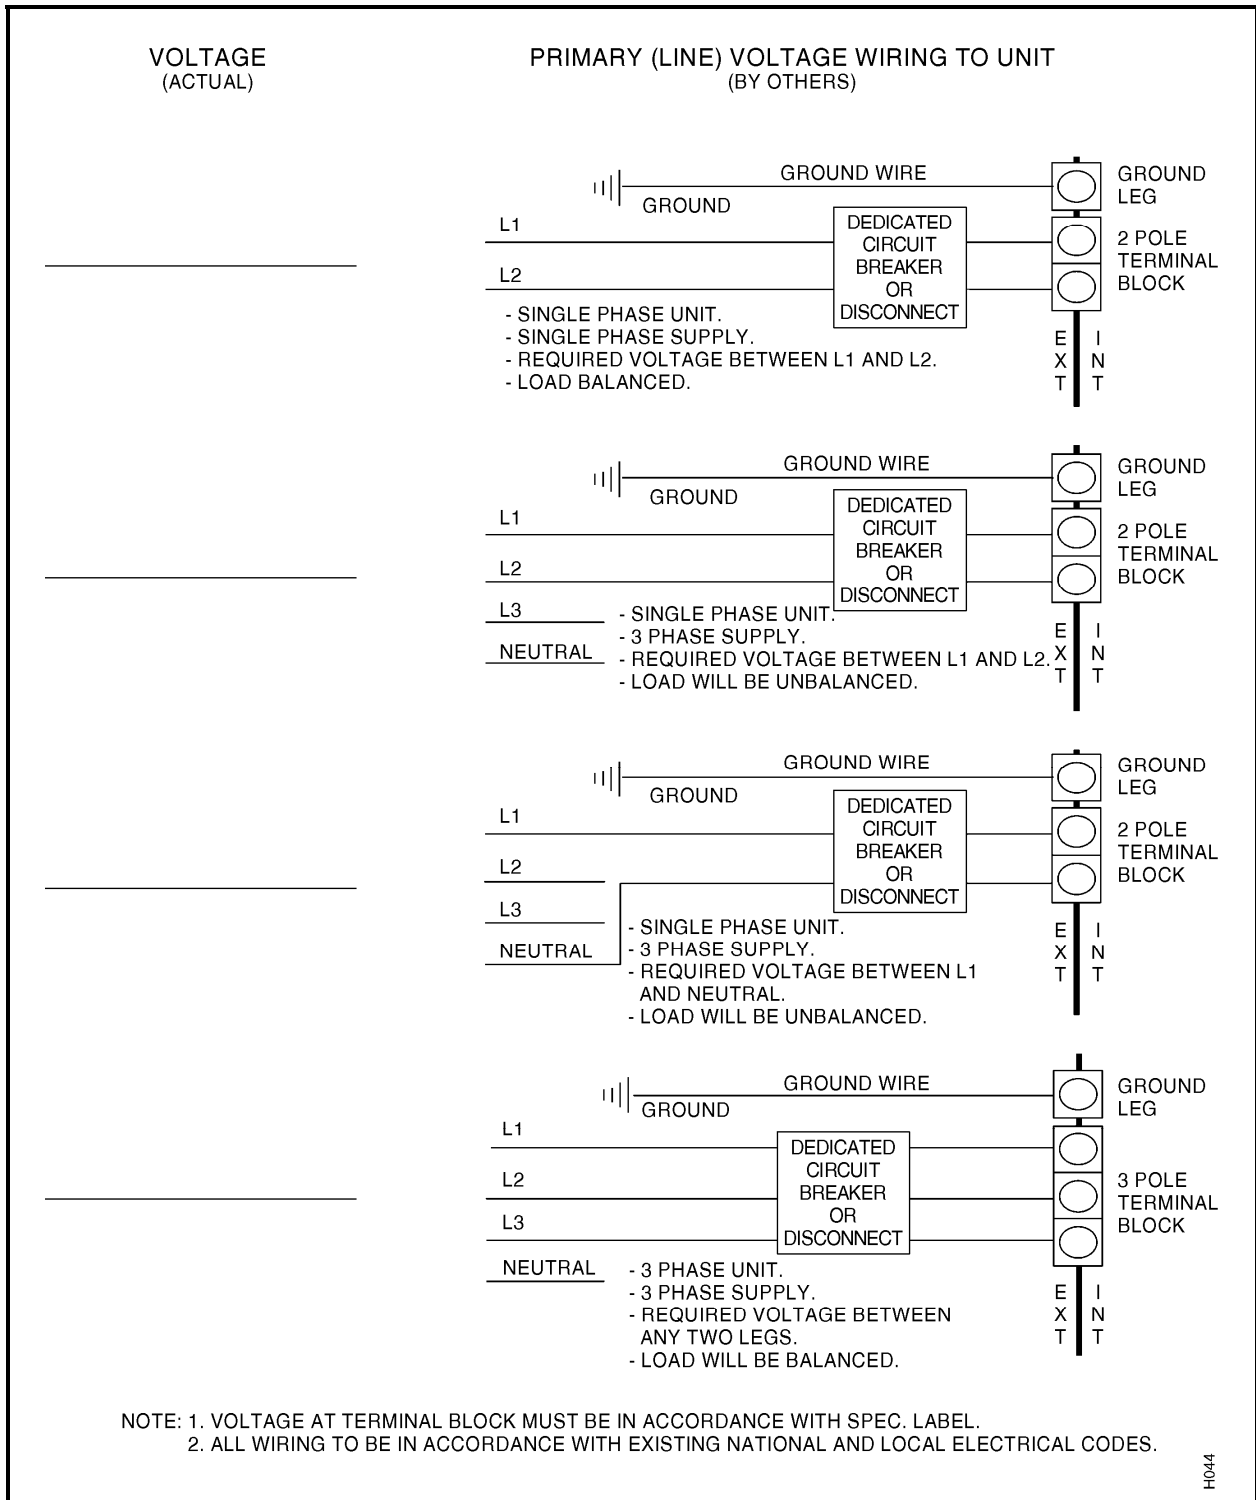

Figure 2. Primary (Line) Voltage Wiring to Unit
- (1) The different wiring connections to the humidifier unit can be found in Figure 2. All wiring is to be in accordance with existing national and local electrical codes.